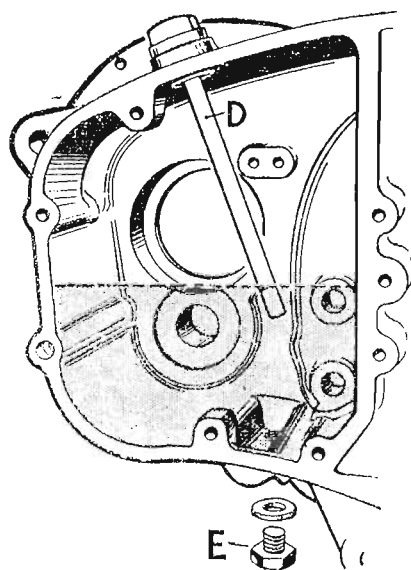

FIGURE 24.
Apart from topping-up at regular intervals, very little maintenance should be required. The filler plug carries a dipstick (D) FIG. 24, and the oil level should be maintained at the mark on the stick.
To drain the case, which should preferably be undertaken while the oil is warm after a run, unscrew the drain plug (E) FIG. 24, below the case. When replacing, make sure that the sealing ring is in good condition otherwise there may be a leakage of oil. The capacity of the gearbox is approximately  $\frac{5}{8}$  U.S. pint ( $\frac{1}{2}$  British pint), and suitable oils are detailed on page 28.